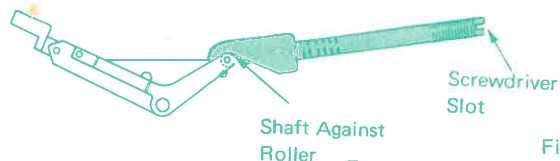

Figure 1
- a) A portion of the hook can be removed on a grinder (Figure 1). This should be done in the CE workshops.